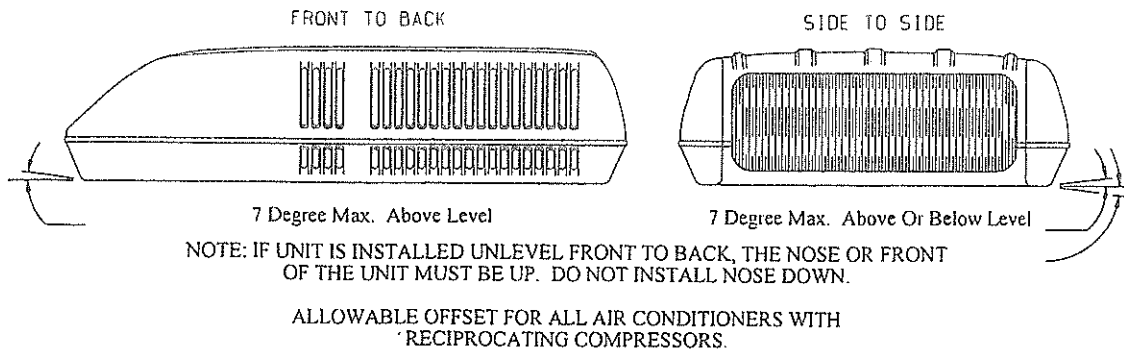

FIGURE 2
- C. The air conditioner must be mounted as near level from front to rear and side to side as is possible when the vehicle is parked on a level plane. Figures 2 and 3 show maximum allowable degree deviations (mounting degrees from total surface flat plane).